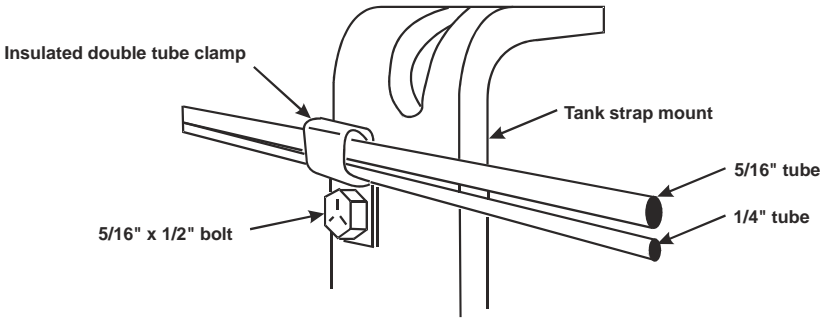

Figure 2.3
- Place the two insulated tube clips over the steel lines with the mounting holes upward and align them with the top C-clamp mounting holes (Figure 2.3).